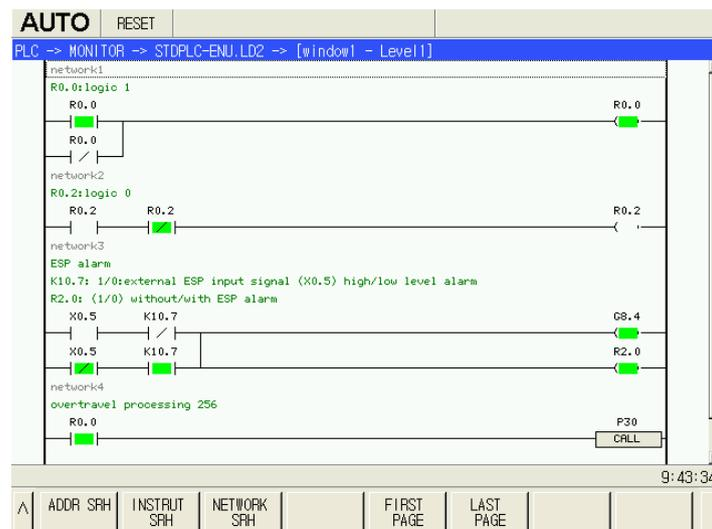

Fig. 3-24
(2) Press  to enter the search window shown in Fig. 3-24: